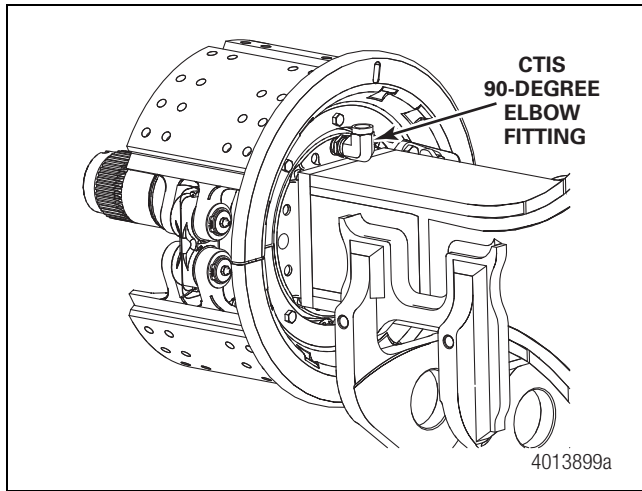

Figure 3.6
6. If equipped with the optional CTIS feature, disconnect the air line and remove the 90-degree elbow fitting from the spindle fitting. Figure 3.6.